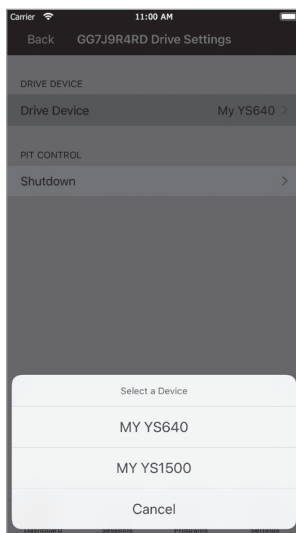
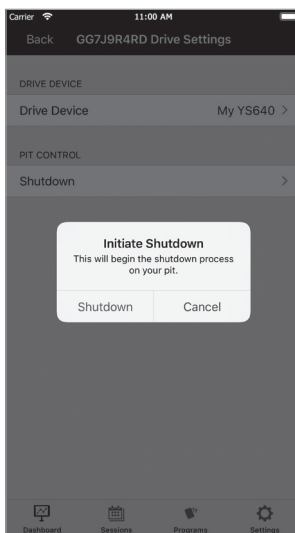

FIG 36
FIG 37
- Tapping the small wrench icon in the upper right of the gray bar will take you to a section that allows you to choose between multiple cookers (if you have more than one paired to your mobile device) (FIG 36) and also allows you to shut down your cooker (FIG 37).